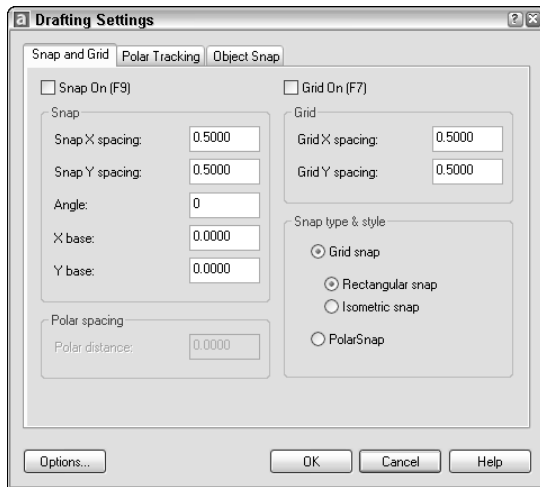

Figure 4-15: The Drafting Settings dialog box
To set the snap size, choose Tools ⇨ Drafting Settings or right-click the SNAP button on the status bar and choose Settings. AutoCAD opens the Drafting Settings dialog box, as shown in Figure 4-15. (If necessary, click the Snap and Grid tab.) In the Snap X spacing text box of the Snap section, type the spacing you want between snap points. Make sure that Grid snap and Rectangular snap are checked in the Snap type & style section of the dialog box. Click OK.
2. Check Polar snap in the Snap type & style section of the dialog box. (See Figure 4-15.)
To set the grid size, choose Tools ⇨ Drafting Settings to open the Drafting Settings dialog box, shown previously in Figure 4-15. If necessary, click the Snap and Grid tab. In the X Spacing text box of the Grid section, type the spacing you want between grid points. Click OK.